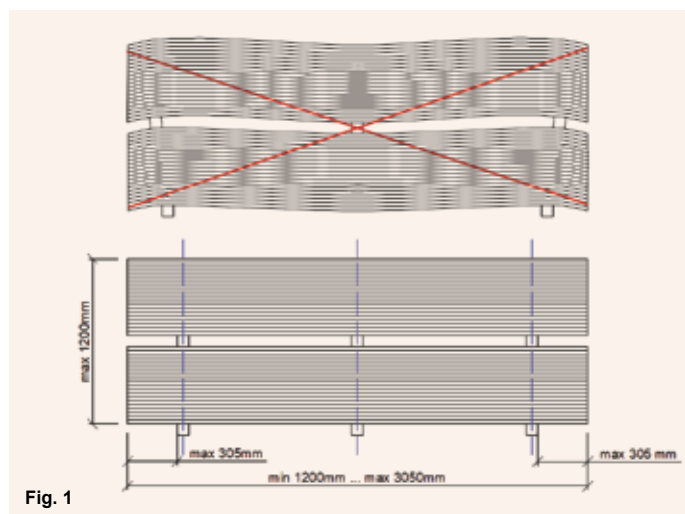

Fig. 1
**VMG Lignum Board | Floor Regular** should be stacked horizontally on wooden battens (100 x 80 mm). Wooden battens should be of the same dimensions and spaced no further than 950 mm apart. At the edges, **VMG Lignum Board | Floor Regular** should not project from the last wooden battens by more 305 mm. Wooden battens should be vertically aligned to avoid damage (Fig. 1).